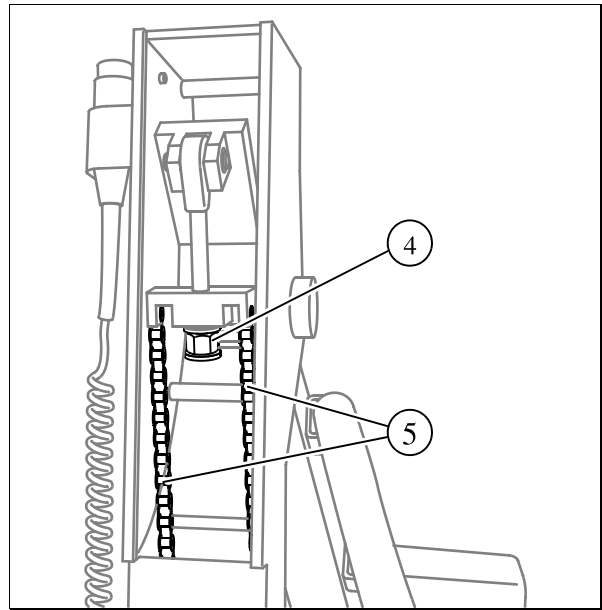

Fig. 8:
- Firmly tighten the nut (4//Fig. 8 / p. 30) using a 17-mm open-ended wrench. Adjust the spring tension so that the support arm is balanced in the horizontal position, i.e., so that equal force is required when lifting and lowering the tube.
- The condition of the chains (5//Fig. 8 / p. 30) for the spring counterbalance must be checked carefully. If the chain is defective, the stand column must be replaced.
- Grease the chains with Optimol Longtime PD2 (5//Fig. 8 / p. 30).